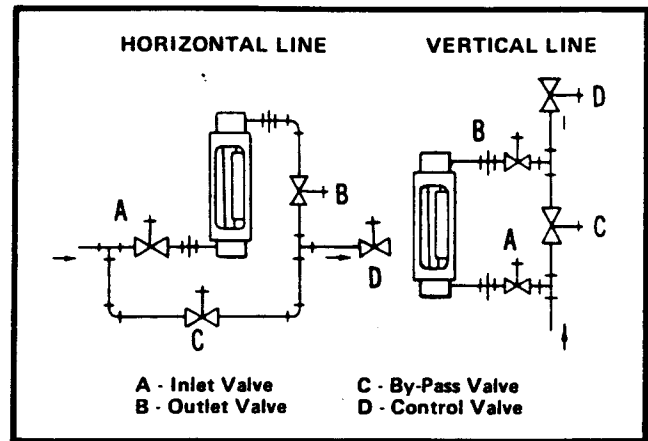

FIGURE 2.1 BY-PASS PIPING
Where connections are interchangeable (for vertical or horizontal connections), it is recommended that the horizontal connections be used if at all practical in the overall piping arrangement. Horizontal connections permit the plugged vertical openings to serve as convenient cleanout ports. The design permits the end-fitting to be rotated in 90° increments, allowing inlet and outlet connections to be made at right side, left side, at the front or at the back of the rotameter. Refer to Figure 2.1
It is well to by-pass the original flow surge when the meter is first put in the line. Refer to Figure 2-1. First, open the by-pass valve (C) fully and the control valve (D) slightly. Then, open the meter inlet and outlet valves (A and B respectively). After the inlet line has been purged of air, close the by-pass valve (C) slowly. This method brings the flowmeter on-stream smoothly; allows the float to start indicating the flow without bouncing or shooting up to the very top of the metering tube.